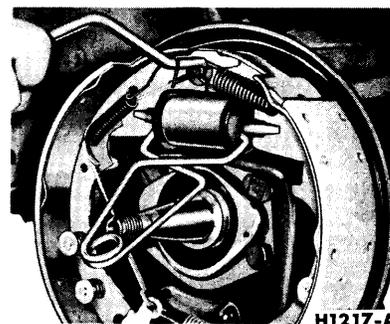

FIG. 8—Retracting Spring Installation
5. Install the primary shoe to anchor spring with the tool shown in Fig. 8.
7. Install the secondary shoe to anchor spring (Fig. 8).